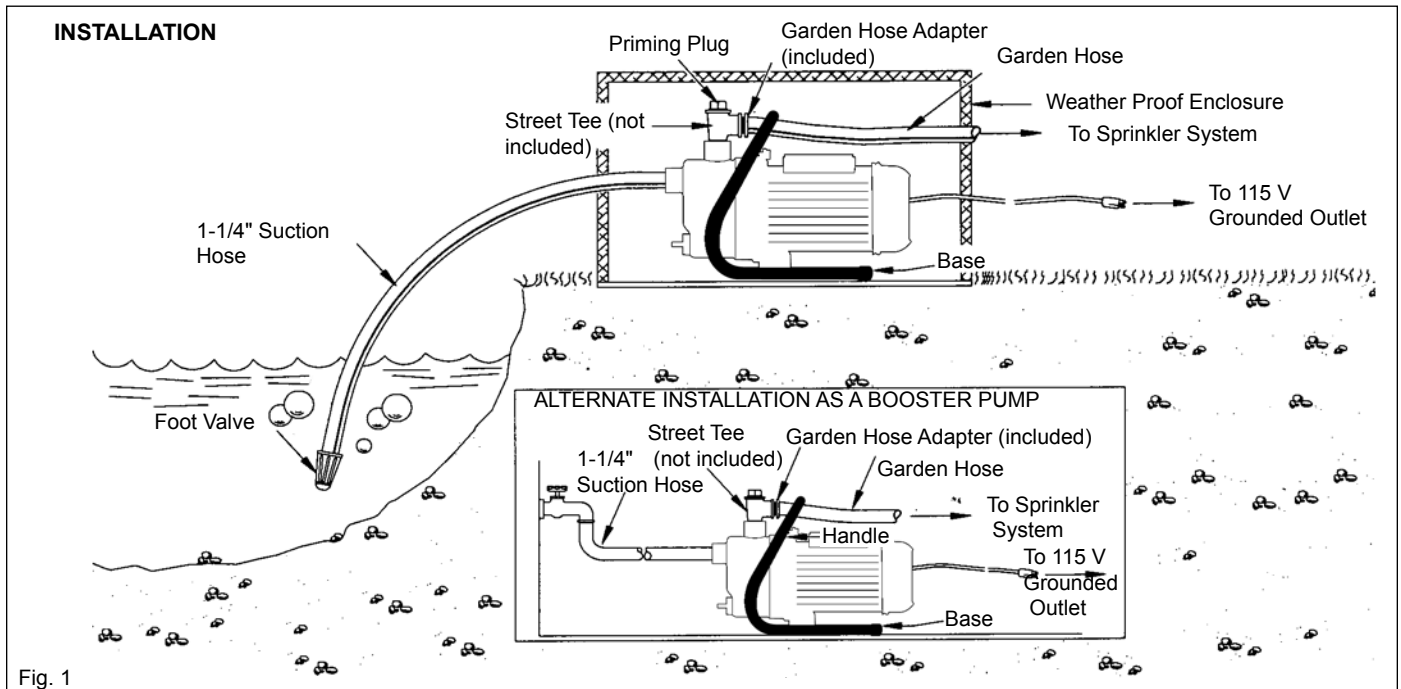

Fig. 1
- Service Line:** The service line should be connected as shown in Fig. 1. The size of the service line required is governed entirely by the amount of water needed and the length of the pipe. The pipe selected should be large enough so that the friction loss (determined from Table 2, Friction Loss Chart) will never exceed a 20 ft. (6m) head.